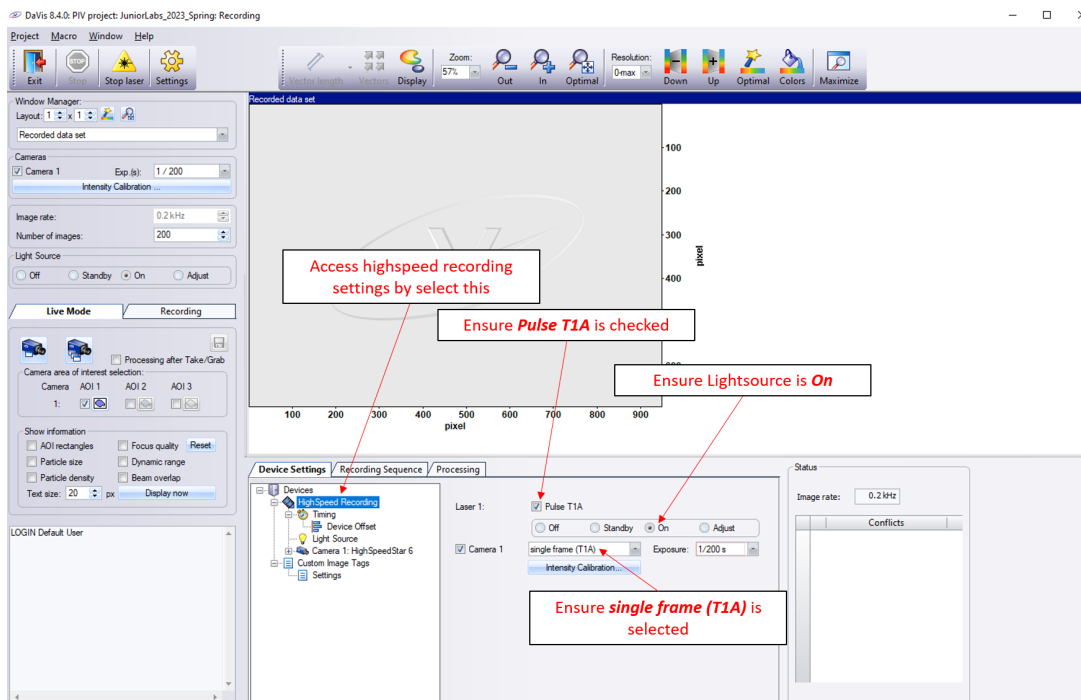

Figure 6: High Speed Recording Settings.
- Click on the ”HighSpeed Recording” settings at the bottom of the screen, see Figure 6. Make sure that the settings are as shown in Figure 6.